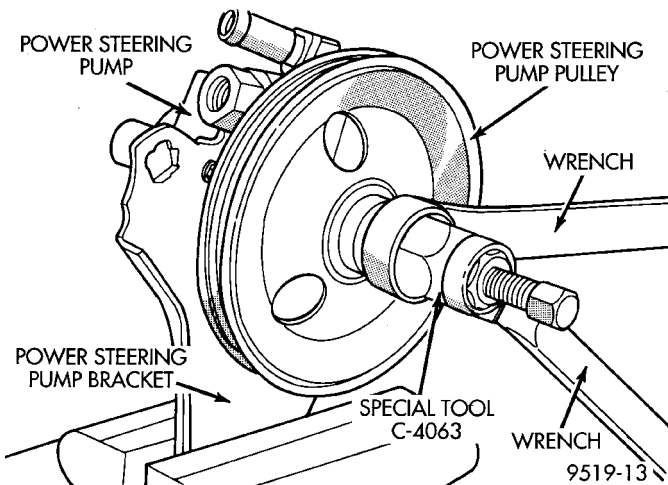

Fig. 37 Pulley Installation On Power Steering Pump Shaft
(1) Mount power steering pump in a vise using the power steering pump mounting bracket (Fig. 37). Then place power steering pump pulley squarely on end of power steering pump shaft. Mount Installer, Special Tool C-4063 in internal threads of the power steering pump shaft and against power steering pump pulley (Fig. 37).